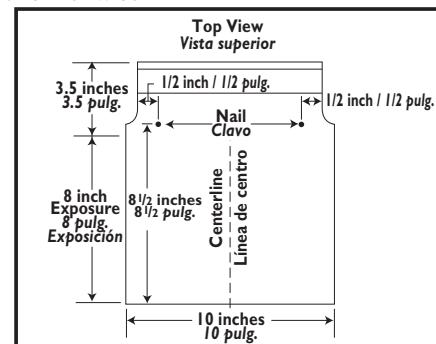

Figure 2
2. Begin **ridge** application opposite the prevailing wind direction. (Fig. 2)
3. Cut first hip and ridge 8" back from the exposed end. Use the top portion of the shingle with sealant as the "starter" hip or ridge shingle. (Fig. 2)